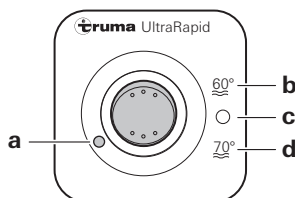

Fig. 3b
- Switch off the water heater to position (Fig. 3b - c).